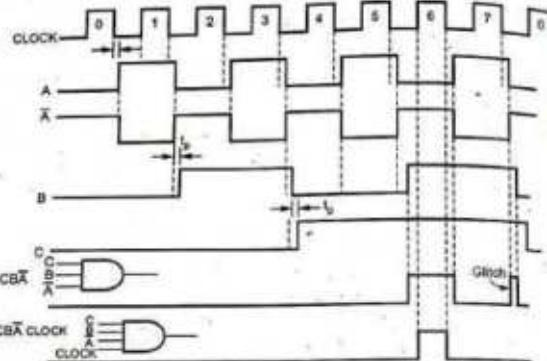

Fig. 5.9.19 Elimination of glitch
- Fig. 5.9.19 shows the waveform of the circuit which decodes state 7.
- We can avoid the glitch on the output waveform by connecting clock as a fourth input to the decoding gate along with inputs A, B and C. This is illustrated in Fig. 5.9.19.